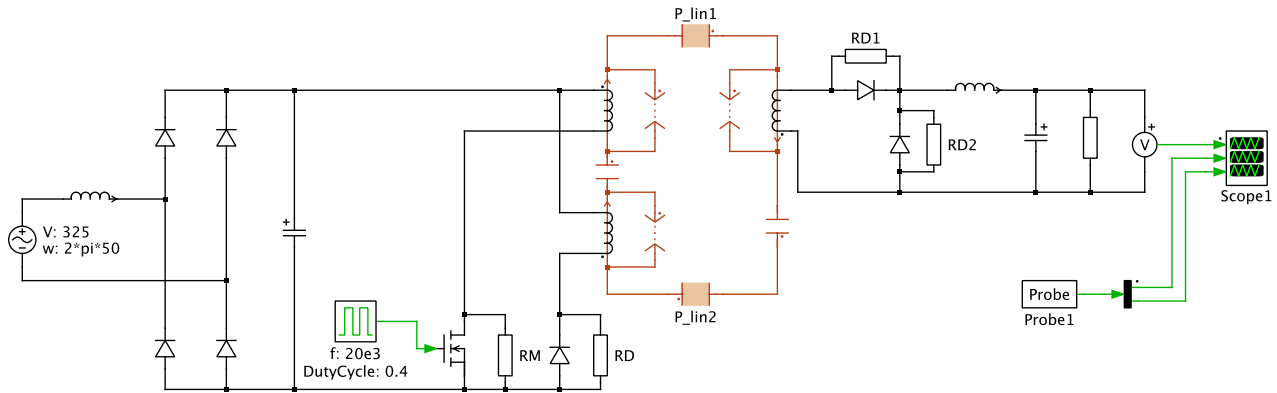

Figure 3: Forward converter with a magnetic circuit, including a linear core, air gaps, and winding leakages
Table 1: Key parameters of the linear core elements shown in Fig. 3
Fig. 3. Use 72 turns for the primary and demagnetizing windings (N_1, N_3) and 6 turns for the secondary winding (N_2). Keep in mind that the secondary and the demagnetizing winding have to be wound with negative polarity. This can be configured in the component mask of each winding.
- 2 Add a Linear Core component at the top and bottom of the magnetic circuit and complete the loop by wiring together the core halves and windings. Also add an Air Gap component on each side of the circuit, as well as as Leakage Flux Path components in parallel with each winding, as shown in Fig. 3. Enter the core parameters for the **Cross-sectional area**, **Length of flux path** and **Unsat-urated relative permeability** using the values in Table 1. For a Linear Core the **Unsat-urated relative permeability** is equal to the relative permeability μ_r .